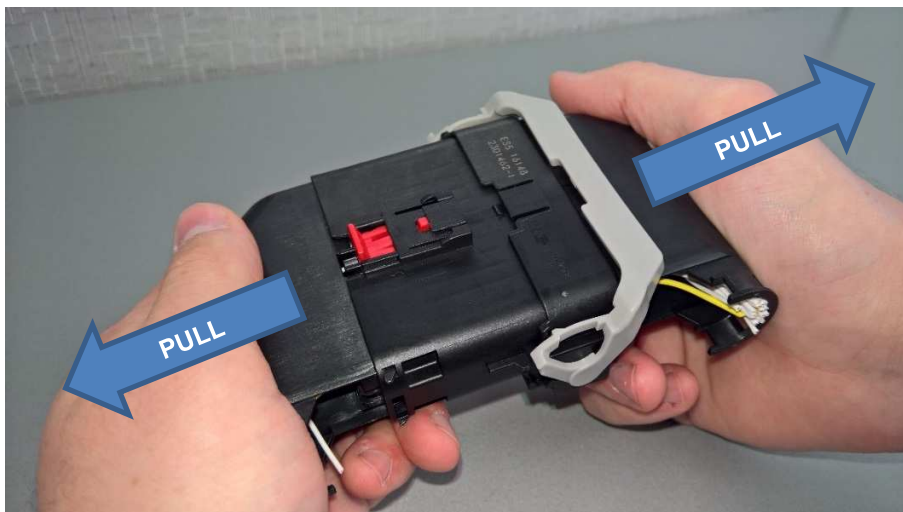

Figure 19
4. Pull connector halves apart as shown in Figure 19.